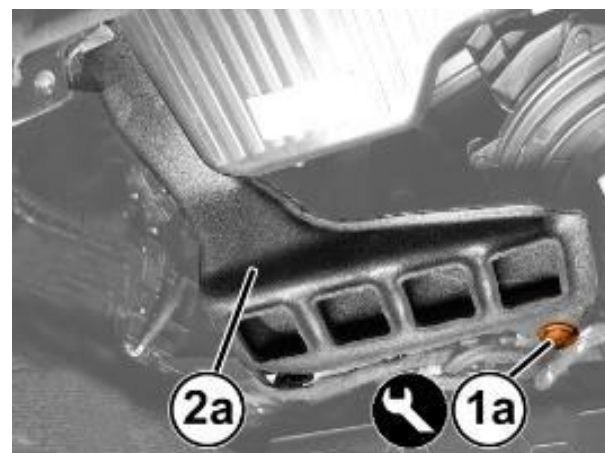

Figure 6 – Air Vent
15. Use tool Trim Stick C-4829A (1823015000) to disconnect the retaining pin with central pin (1a) and release the air vent (2a) (Figure 6).
CAUTION: Carefully move the air vent (2a) only when accessing the ABS module fasteners to avoid damaging it (Figure 6).